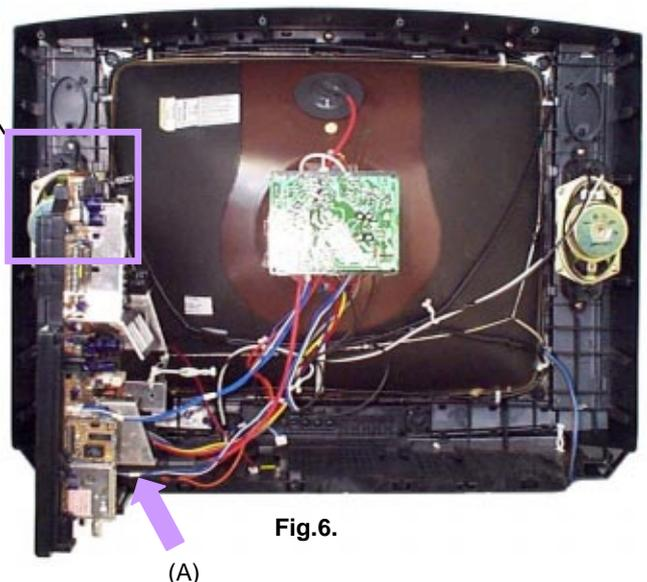

Fig.6.
7. Locate the base of the chassis frame into the hole (marked A), shown in **Fig.6**.